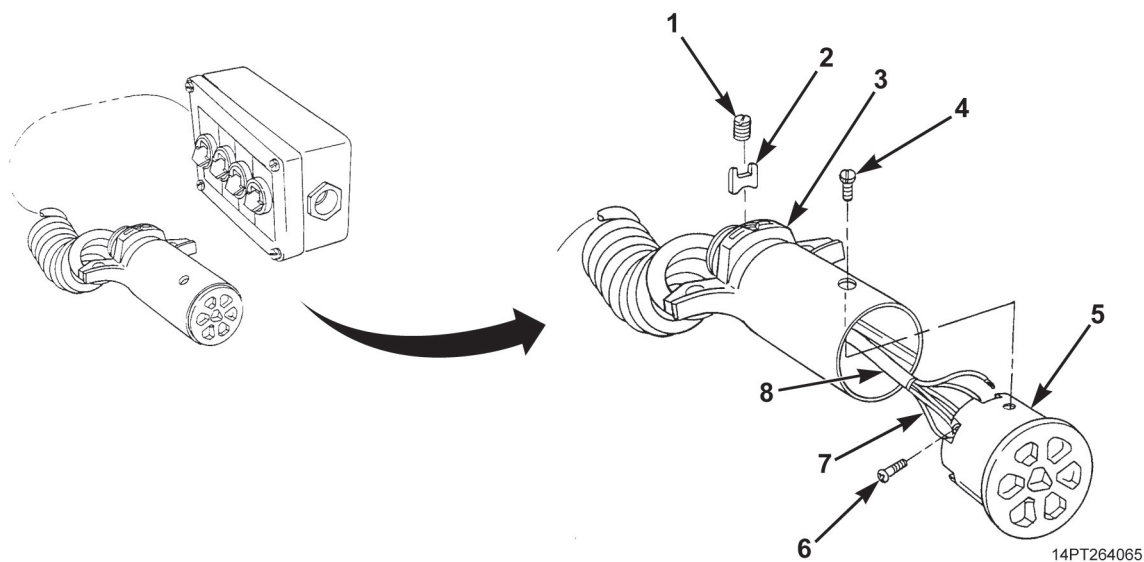

Figure 1. MCS Remote Control Plug Disassembly.
1. Remove screw (Figure 1, Item 4), screw (Figure 1, Item 1), and clamp (Figure 1, Item 2) from connector housing (Figure 1, Item 3).
2. Pull connector (Figure 1, Item 5) outward and remove seven screws (Figure 1, Item 6) to remove connector and connector housing (Figure 1, Item 3) from wires of cable (Figure 1, Item 8).
3. Remove jumper wire (Figure 1, Item 7).